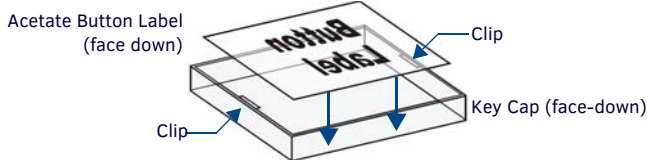

FIG. 7 PLACING A BUTTON LABEL INSIDE A KEY CAP
- Place the Key Cap face-down, and insert the Button Label into the bottom of the Key Cap (FIG. 7).
- Orient the Button Label inside the Key Cap so that the two clips are located on the left and right sides of the readable text on the Button Label, as indicated in FIG. 7.
- Be sure to place the Button Label face-down inside the Key Cap (see FIG. 7), otherwise the label will be seen in reverse once the Key Cap is installed.